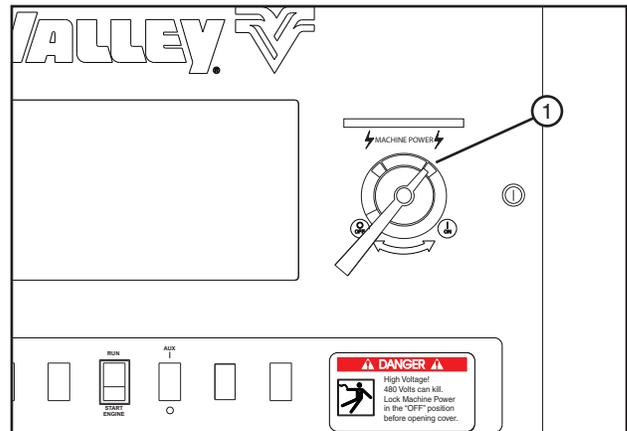

Figure 29-2 1. Main Power Disconnect
2. SHUT OFF the control panel main power disconnect. See figure 29-2.